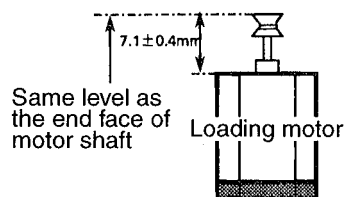

Fig. 32 Press-in dimensions of loading motor pulley
3. Press in the pulley to the loading motor according to the dimensions in Fig. 32.